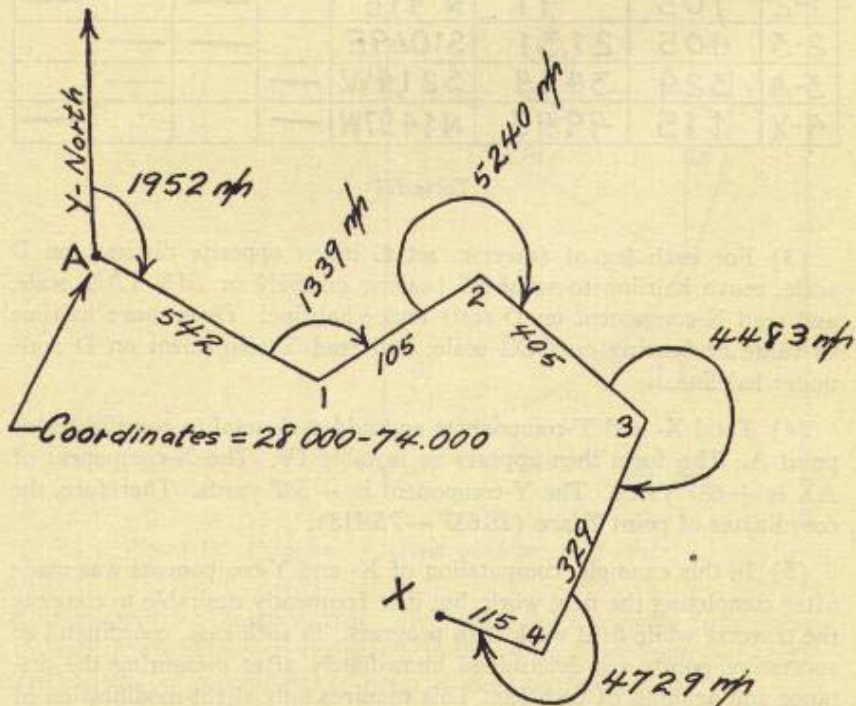

Figure 13. Survey field notes.
c. DETERMINING COORDINATES. Field notes for a traverse from point A to point X are shown on the sketch in figure 13. Coordinates of point A are known, but coordinates of point X must be determined.
- (1) First, tabulate data in a convenient way such as in Table II.